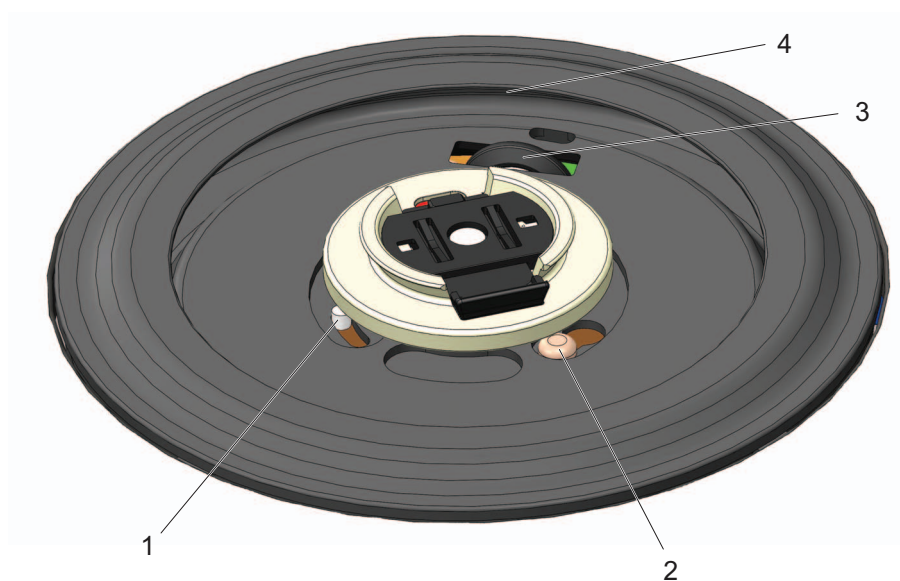

Figure 1: Protective casing for collecting waste.
NOTE: Do not use a brush with a metal handle. It might scratch the inner edge of the casing, (3) in Figure 1.
1. Loosen the two screws, (1) in Figure 1, that hold the casing in place. The screws do not need to be removed.
3. Pull out the casing. Be very careful not to touch the sensor head, (2) in Figure 1. If the sensors are damaged this may interfere with the system's ability to find the home position on the CD.
2. Put the casing back in place. Be very careful not to touch the sensor head, (2) in Figure 1.
4. Tighten the two screws, (1) in Figure 1, that hold the casing in place.